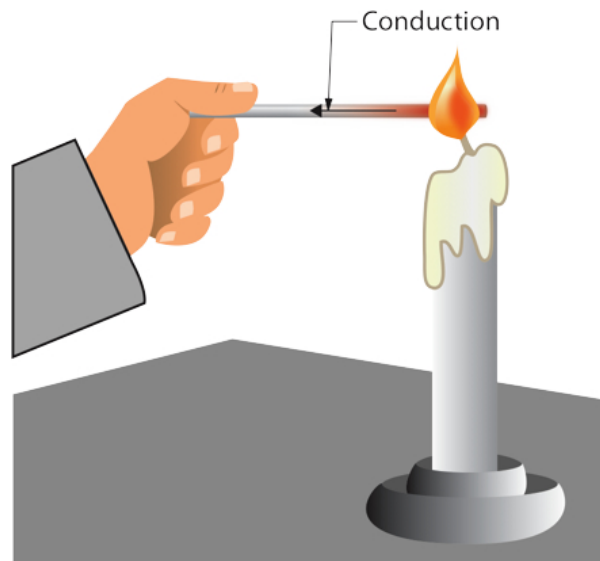

Figure 2 Heat transfer via conduction
- Figure 2 Heat transfer via conduction by ITA is licensed under a CC BY-NC-SA licence.